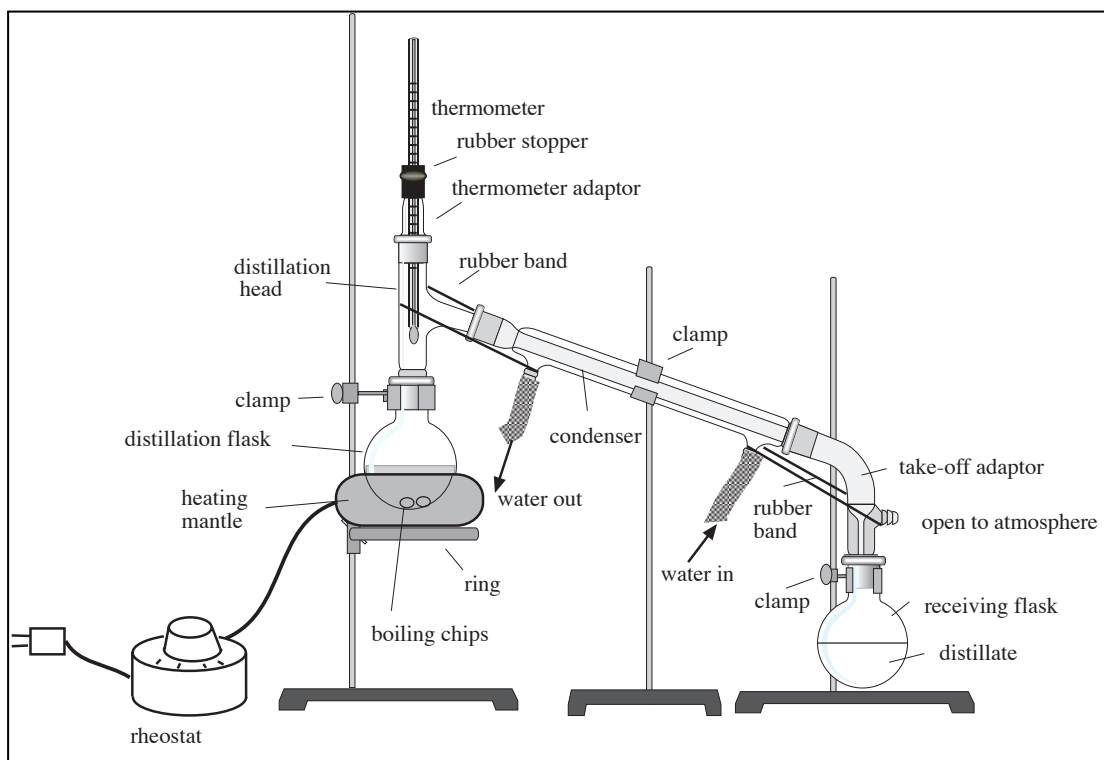

Figure 2. A 'simple distillation apparatus' used for steam distillation (omit boiling chips).
2. Distillation Assembly: Tare a large beaker on the balance and transfer the prepared citrus peels into it. Record the mass of peels. (The mass should be no less than 100 g and no more than 150 g.) Transfer the peels into a 500-mL round bottom flask (RBF) set on a cork ring using a wide-mouth plastic funnel and stir rod to poke the peels through. **Add 150-175 mL of distilled water** (depending on your mass of peels) to the beaker, swirl to pick up any bits of peel, and gradually transfer into the 500-mL RBF. Assemble a simple distillation apparatus, beginning with the 500-mL RBF (see **Figure 2** and more instructions on next page).